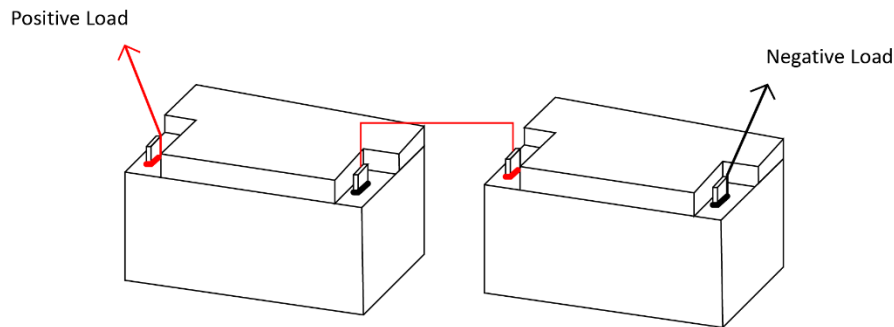
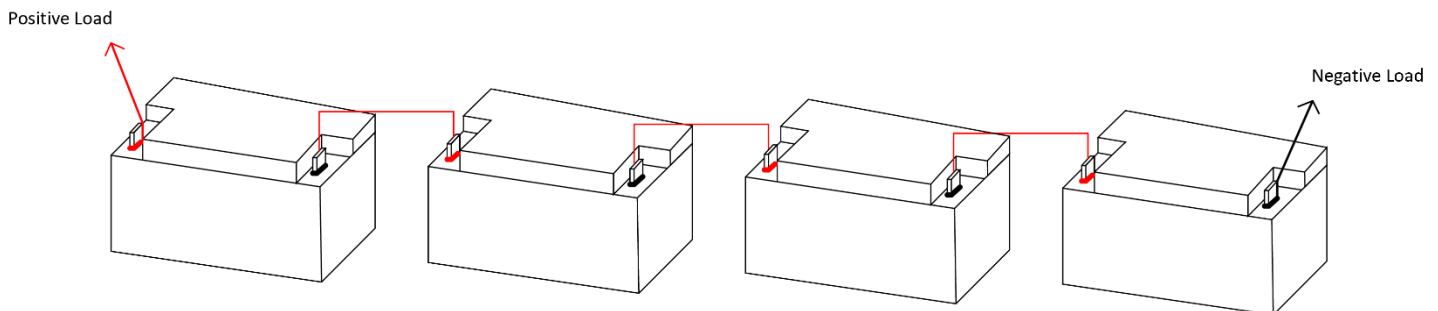

Figure 4.1: Two 1275 Batteries Connected in Series to create a 24V 75Ah Battery Bank
Figure 4.2: Four 1275 Batteries Connected in Series to create a 48V 75Ah Battery Bank
7. Repeat steps 3-6 for additional batteries, but **DO NOT** exceed 48V. An example of a correct series connection can be found below in Fig. 4.1 and Fig. 4.2.